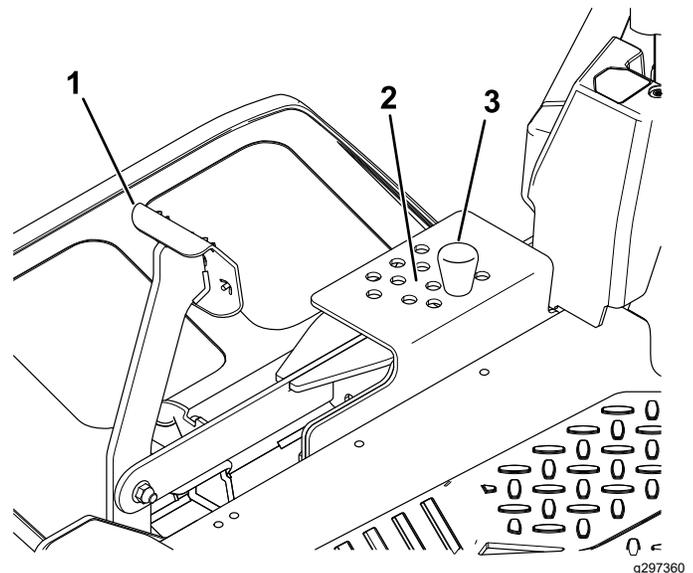

Figure 28
2. To adjust, remove the pin from the height-of-cut bracket (Figure 28).
3. Select a hole in the height-of-cut system corresponding to the desired height of cut and insert the pin (Figure 28).